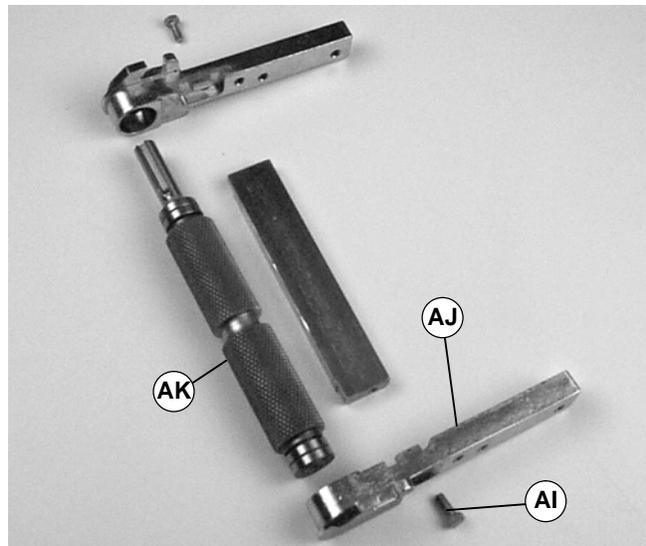

Figure 31
5. Remove screw (AI of Figure 31).